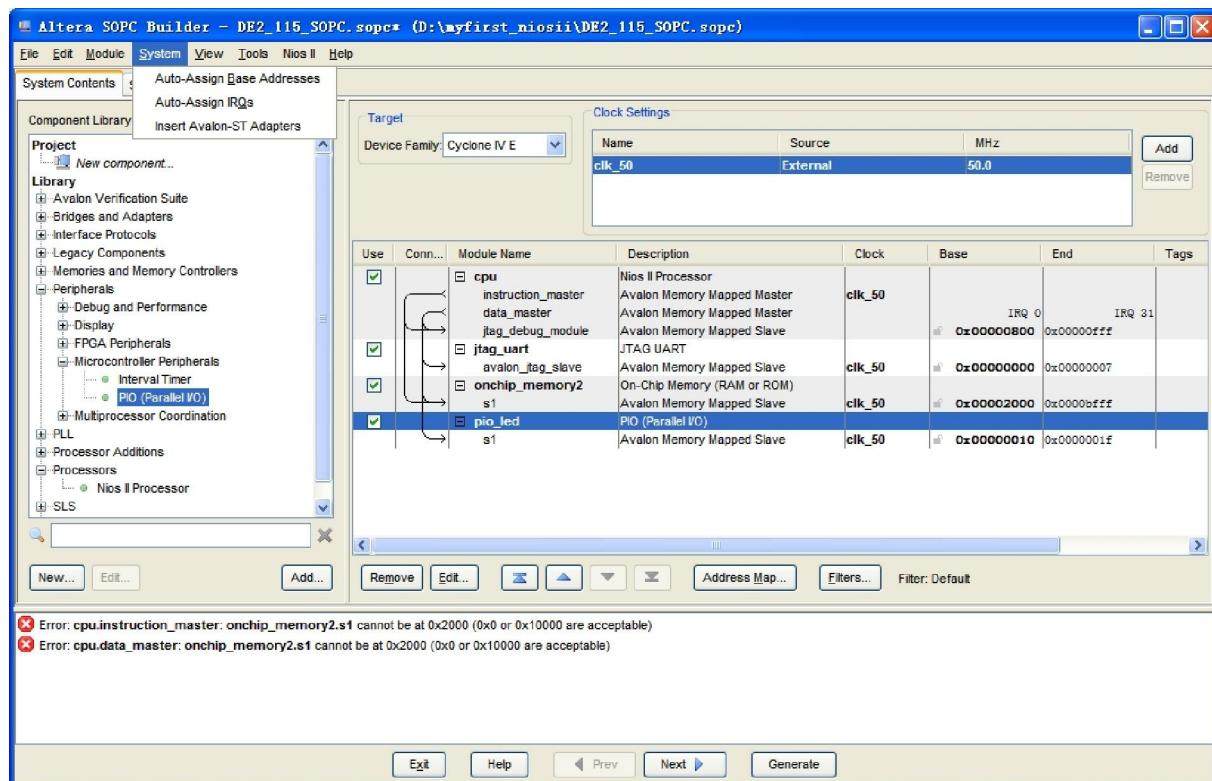
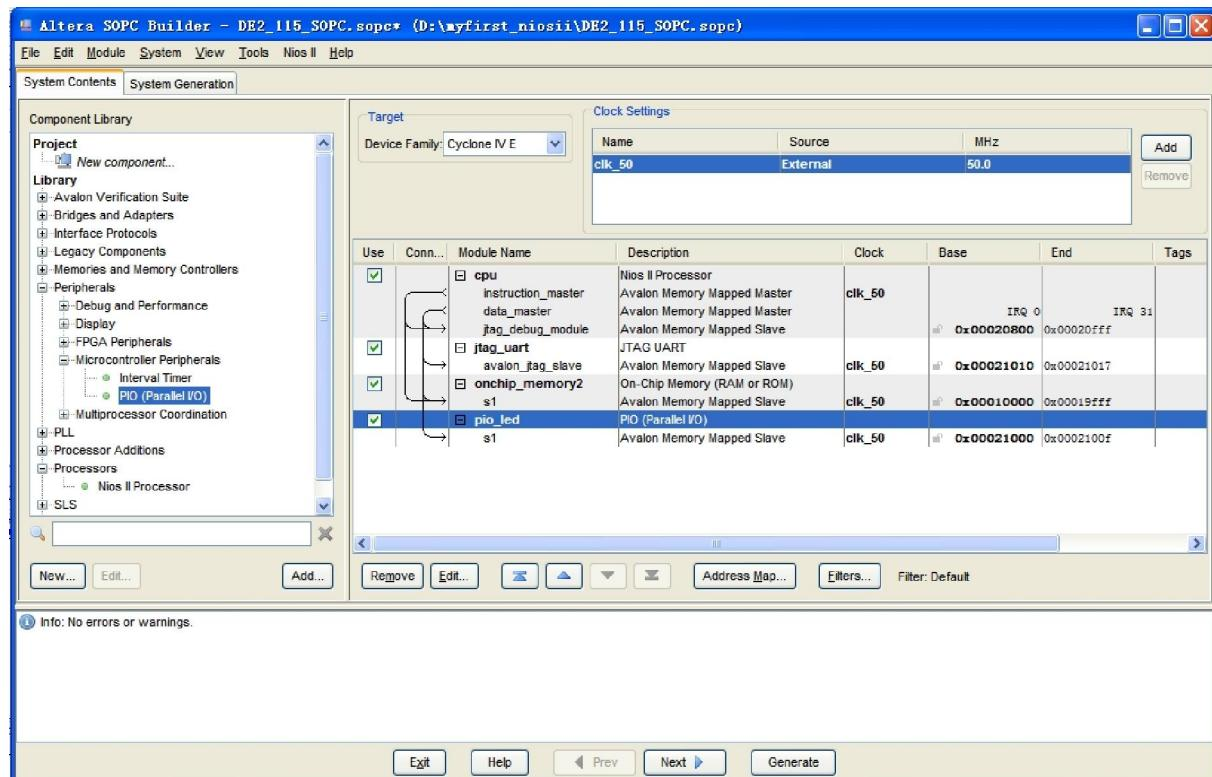

Figure 1-34 Auto-Assign Base Addresses
Figure 1-35 No errors or warnings
22. Choose **System > Auto-Assign Base Addresses** as shown in Figure 1-34. After that, you will find that there is no error in the message window as shown in Figure 1-35.